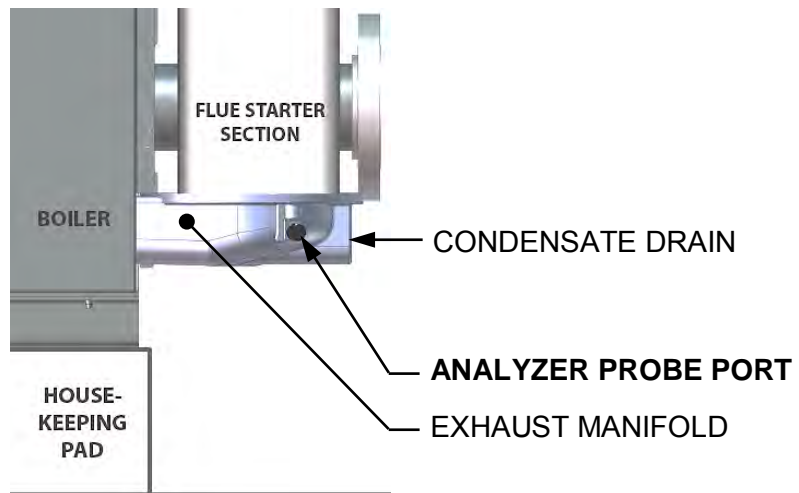

Figure 4-2: Analyzer Probe Port Location
The unit contains a 1/4" NPT port on the side of the exhaust manifold as shown in Figure 4-2. Prepare the port for the combustion analyzer probe as follows:
1. Refer to Figure 4-2 and remove the 1/4" NPT plug from the exhaust manifold.